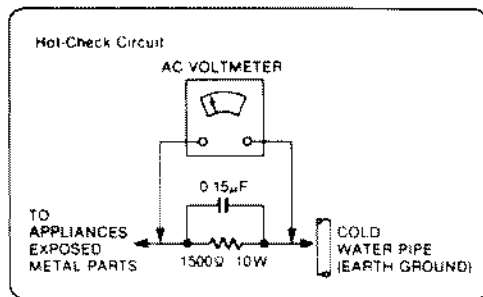

Figure 1
LEAKAGE CURRENT HOT CHECK (See Figure 1.)
2. Connect a 15k Ω , 10 watts resistor, in parallel with a 0.15 μ F capacitor, between each exposed metallic part on the set and a good earth ground such as a water pipe, as shown in Figure 1.